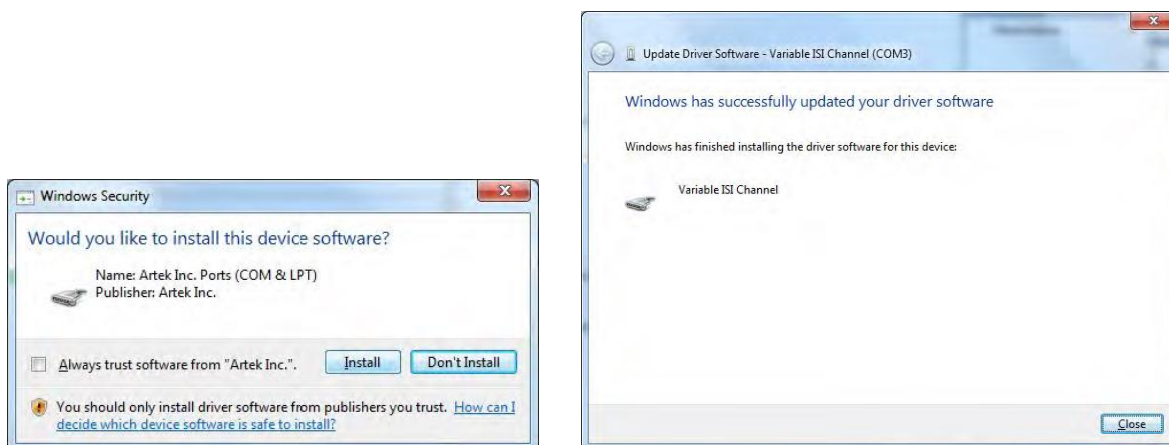

FIGURE 70. WINDOWS SECURITY WINDOW AND CONFIRMATION WINDOW
- d) Click **Next**. You will be asked to confirm your request to install a driver. See Figure 70.